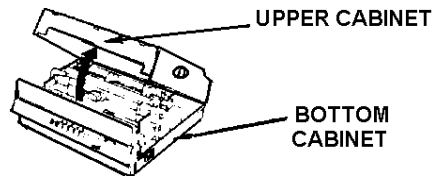

FIGURE 12 - CABINET REMOVAL
3.6.3 Carefully raise and remove the upper cabinet from the bottom cabinet (Figure 12).